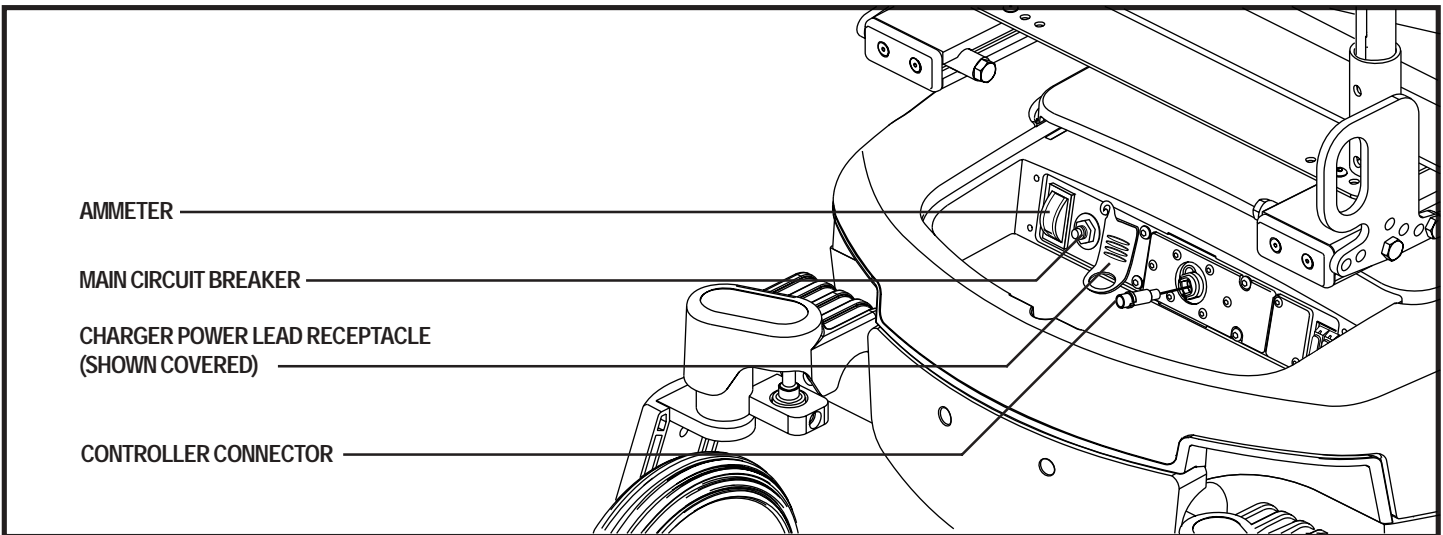

Figure 6. Electronics Tray
The electronics tray is located on the rear of your power chair. The electronics tray is located underneath the rear sliding door and consists of the ammeter, the charger power cord receptacle, the main circuit breaker, accessory connector (optional equipment), and the controller connectors(s). See figure 6.
8. Plug the controller connector into the electronics tray. See figure 6.